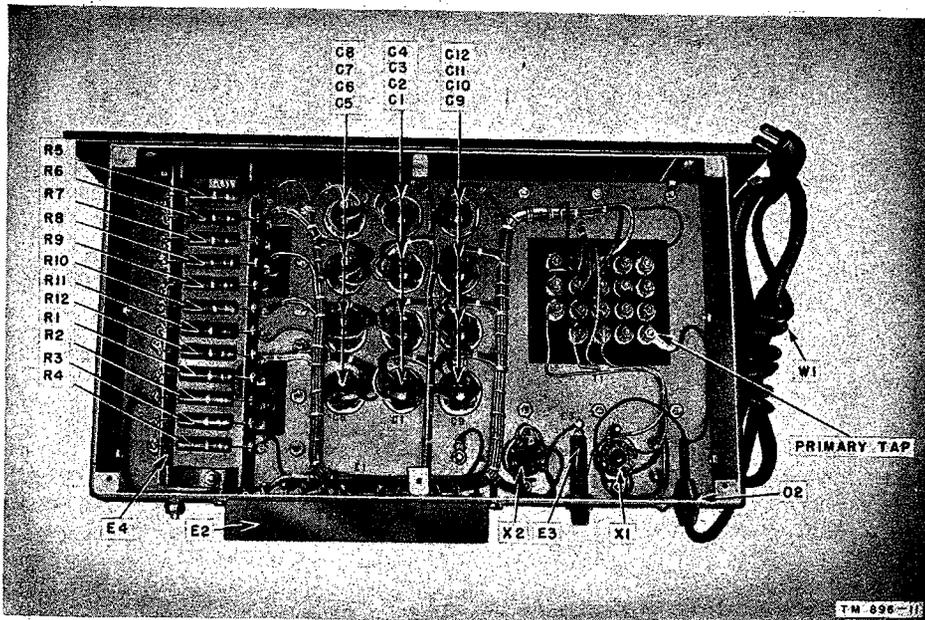

Figure 44.1 (Added.) Power Supply Unit RA-74-D, with serial numbers 1 through 390, Order No. 12618-Phila-47, chassis, bottom view.
e. A-C INPUT. Before plugging the \* \* \* in figure 12. The primary tap of Power Supply Unit RA-74-D is indicated in figures 44.1 and 44.2. Connect the primary \* \* \* bottom cover plate.